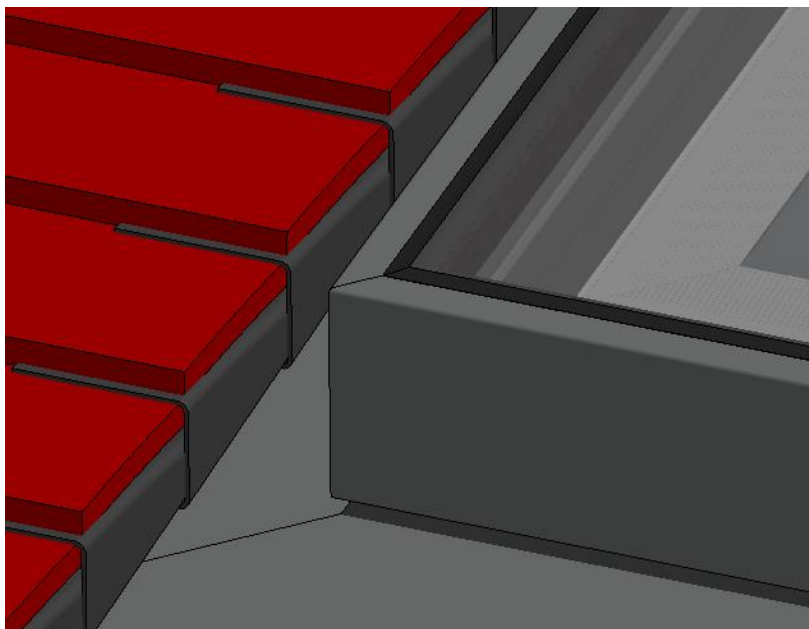
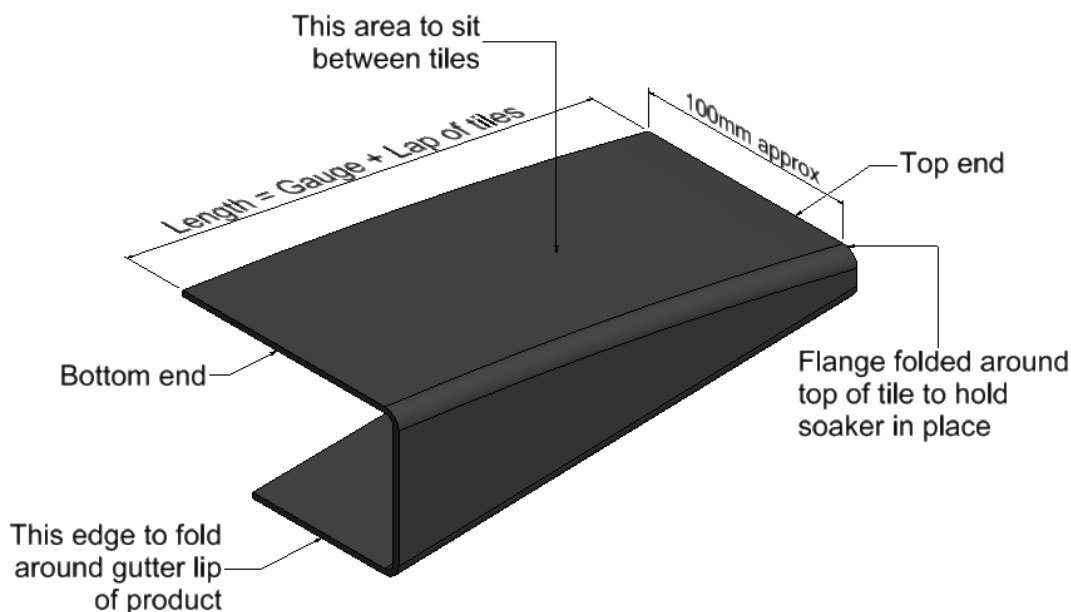

Fig. 12a – Example of installed soakers
Fig. 12b – Example of soaker
- The soakers should tuck approximately 100mm between the tiles/slates, should fold under the gutter of the product and should overlap by at least 50mm (fig. 12a)
Fig. 12a is presented only as an example. The soakers described in fig. 12b may not be suitable for your roof.